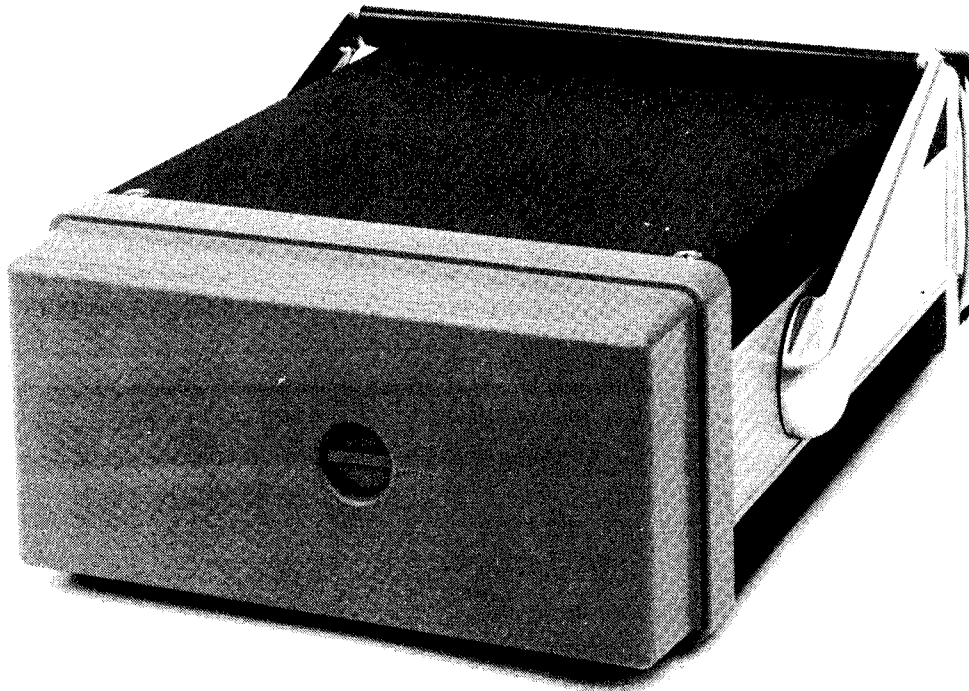

Fig. 2.1. Removing front cover
2.1.2. Removing and fitting the front cover (see Fig. 2.1.)